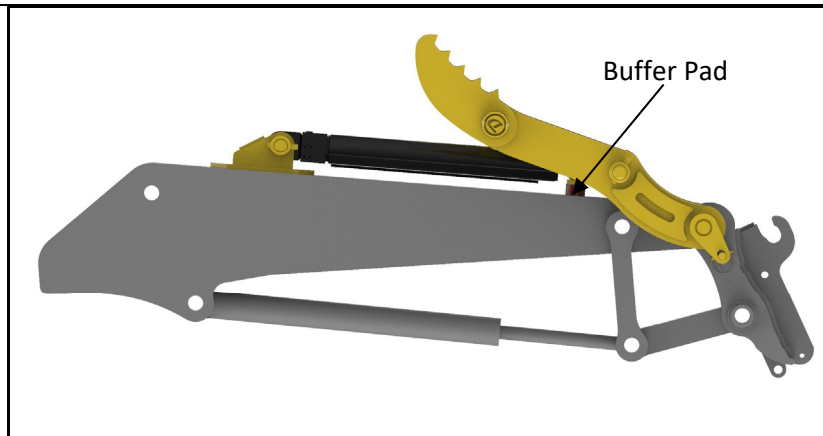

Figure 6 BUFFER INSTALLATION
10. If Buffer Pads are fitted, ensure they are in full contact with the dipper arm. See Figure 6. Note that it may be necessary to fit an additional wider doubler plate to the dipper arm to achieve this.